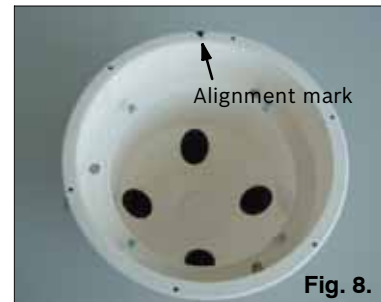

Fig. 8.
4. Slightly turn each base until the mark on the base aligns with the other detectors' marks (see Fig. 8.).